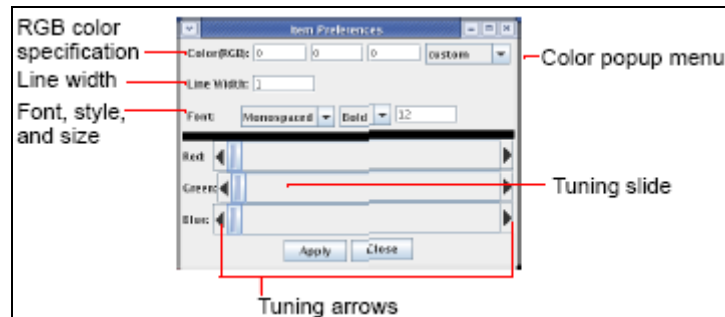

Figure 47 Item Preferences Window
2. Click text input tool  to open the Text Input window shown in Figure 47.